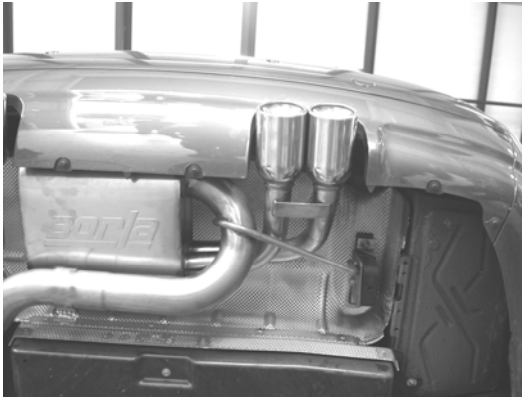

Figure 8
1. Place the right muffler assembly into position as shown in figure 8. Using the original hardware, secure the rubber brackets to the vehicle in their original position.